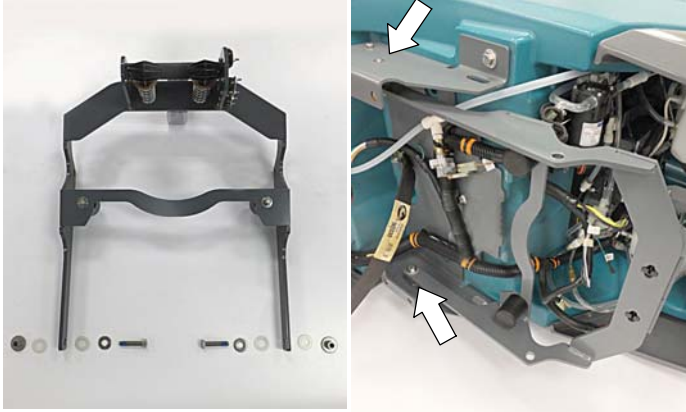

Fig. 6
6. Install the orbital scrub head lift bracket assembly to machine using 2 flange sleeves, 4 nylon flat washers, 2 metal flat washers and 2 M8x1.125x40 hex screws as shown (Figure 6).